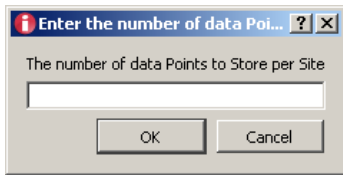

FIGURE 11. NUMBER OF POINTS PER CHANNEL INPUT BOX
- Upon completion of the save dialog box, an input box (Figure 11) asks for the number of points to be saved per channel.